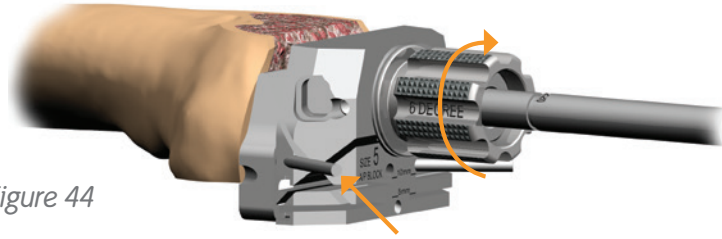

Figure 44
4. Tighten the neutral 6° valgus collet to the reamer shaft (or Trial Stem Connection Rod Assembly). Pin the A/P cutting block to the distal femur through the central hole and secure with oblique pin(s) through the side of the A/P cutting block and distal shims (Figure 44).